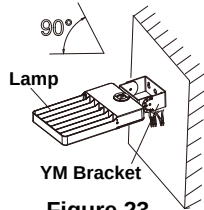

Figure 23
- Step 3: Securely attach the fixture to the bracket and tighten the screws; make proper wiring connections as per the wiring diagram on page 1. (Figure 23)
- Notice: Adjustable angle is 0-90°(Figure 23)